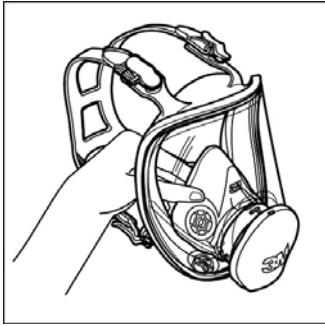

Fig. 1
1. Remove the nose cup assembly by pulling away from center adapter base inside facepiece. (Fig. 1)